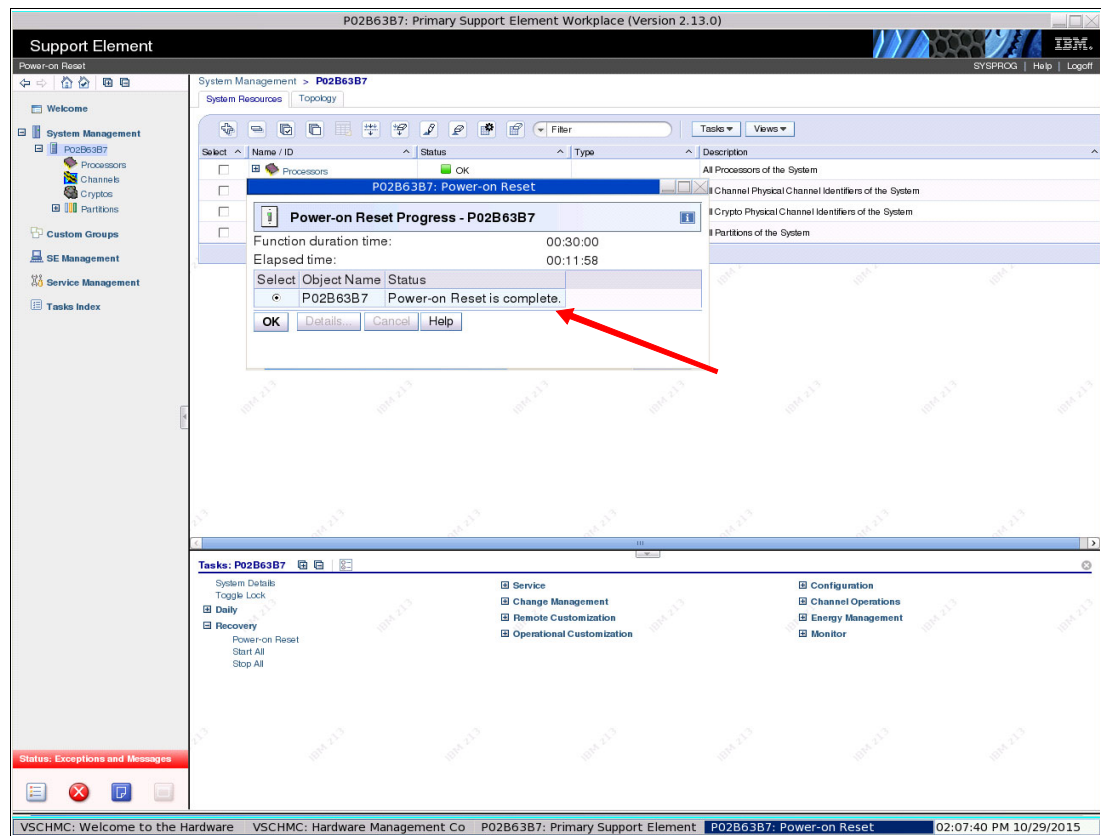

Figure 4-20 POR Complete indication
8. After the POR is complete, the window that is shown in Figure 4-20 opens. We click **OK**.